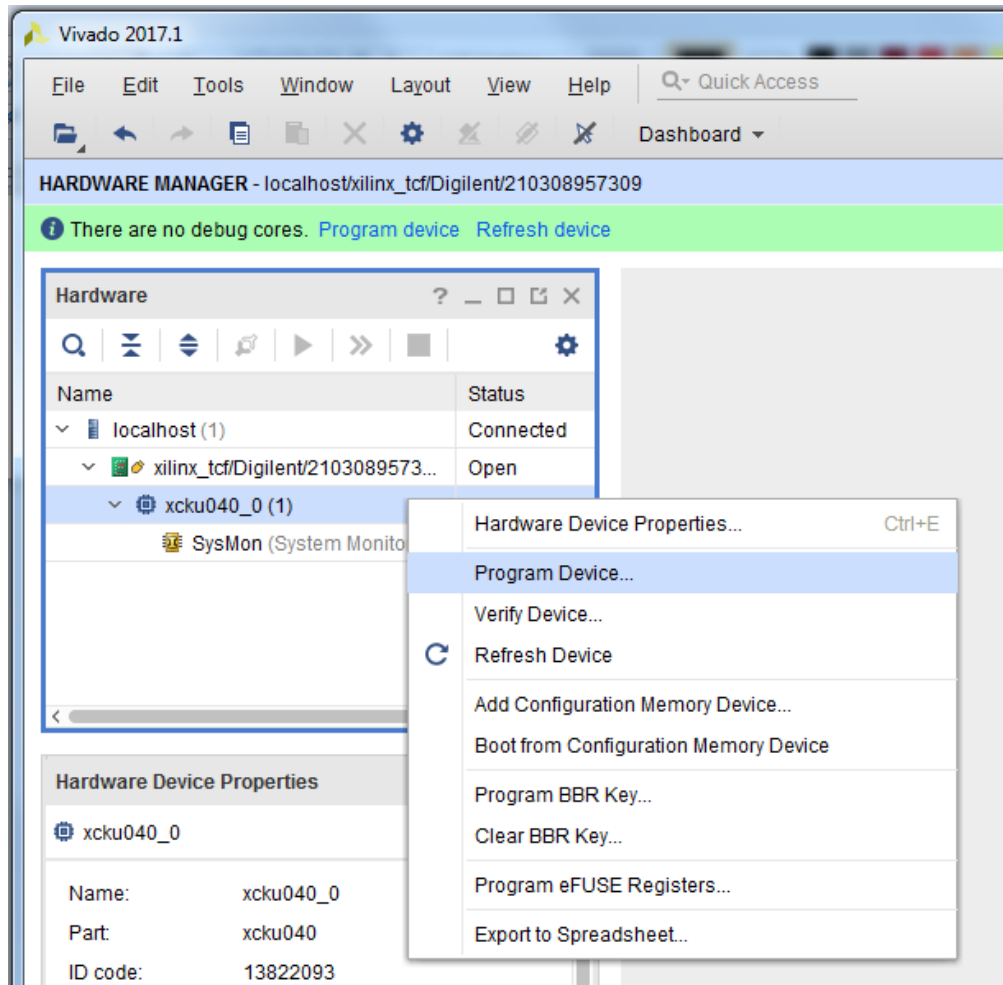

Figure 3-4: Select Device to Program
- a. In the hardware view, right-click **xcku040** and select **Program Device** (Figure 3-4).